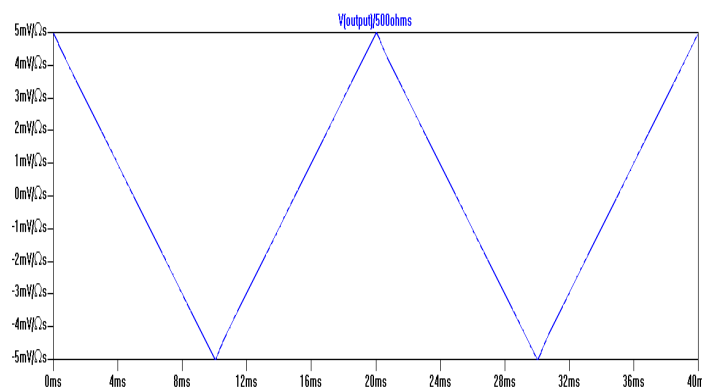

Figure 5: non-sinusoidal triangular wave TOUCH CURRENT example
An example of a simple non-sinusoidal waveform is shown. This is the triangular current waveform seen in Figure 5 and is used for comparison of effects between the measurement circuits.
The FFT for this Figure 5 waveform shows the high frequency characteristics of this waveform with harmonics above 10kHz.
3.5mArms LETGO-IMMOBILIZATION IEC 60990 Figure 5 TOUCH CURRENT performance vs frequency sweep: